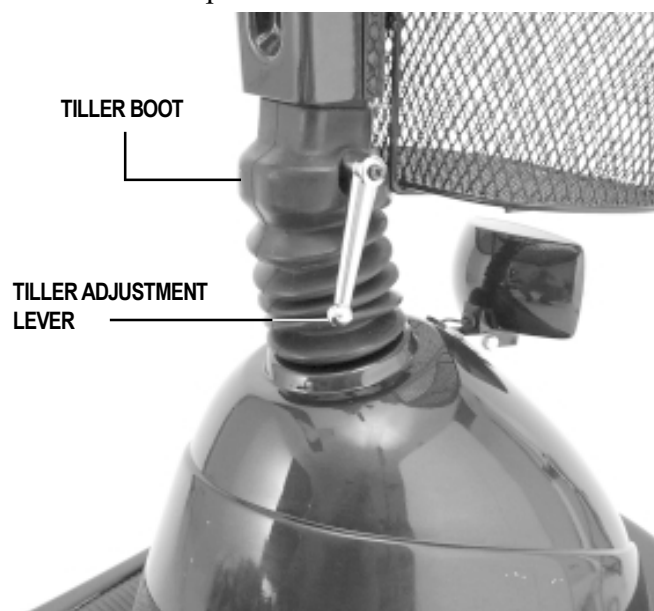

FIGURE 16. TILLER ANGLE ADJUSTMENT
1. Turn the tiller adjustment lever counterclockwise until it is loose. If the tiller adjustment lever comes in contact with the tiller basket, pull it outward, turn it clockwise, and release it. Continue to loosen until you are able to move the tiller. See figure 16.